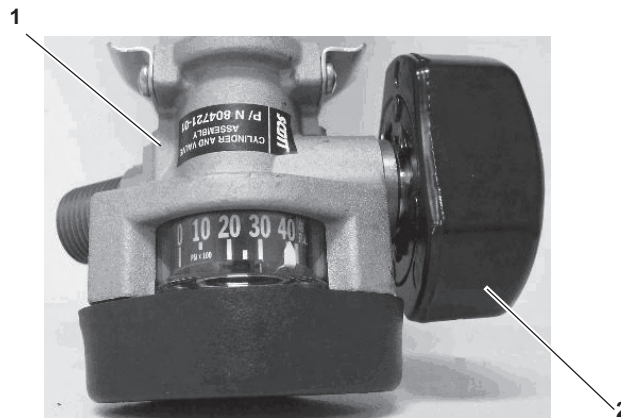

Figure 2-14. Open Cylinder Valve
- c. Open the cylinder valve (figure 2-14, item 1) by slowly turning the handwheel (figure 2-14, item 2) fully away from the user, then back off 1/4 turn.